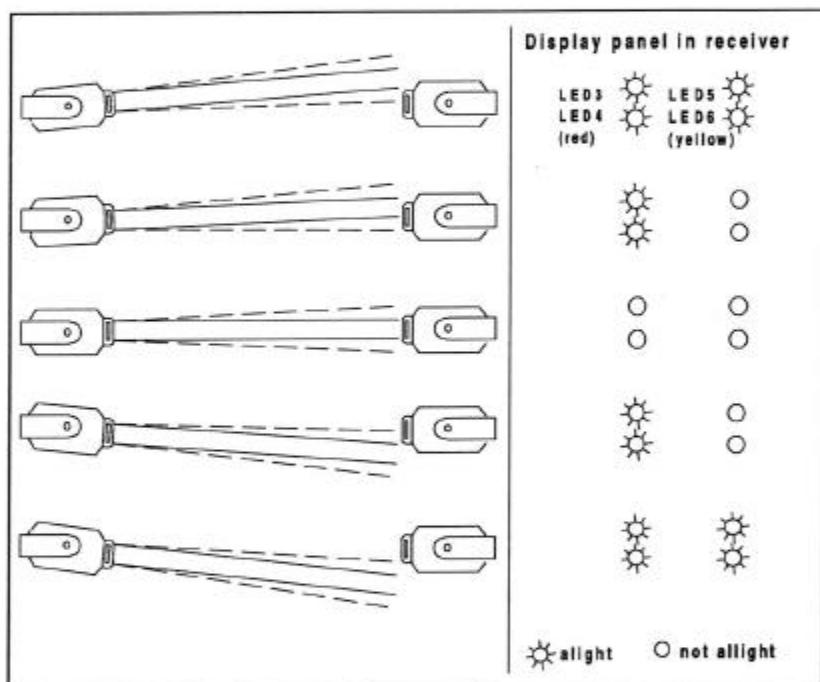

Figure 9-3 Aligning transmitter or receiver
5. Now turn back and fasten the receiver in the centre of this range (Figure 9-3).